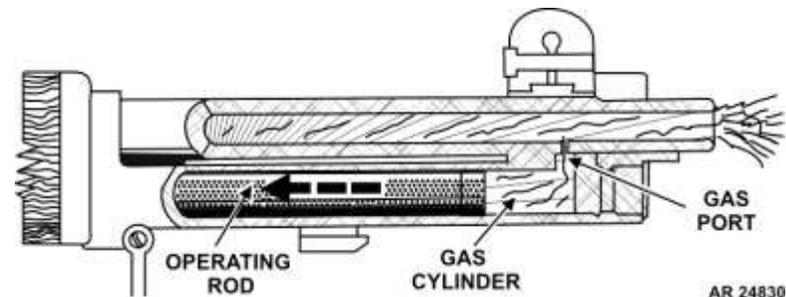

Figure 59 -Action of gas
- 5) **Unlocking:** Unlocking occurs after the round is fired. Once the round is initiated, a small portion of the gas expands through the gas port into the gas cylinder, forcing the operating rod to the rear (fig 59). The camming surface inside the recess in the hump of the operating rod, in combination with the guideway in the side of the receiver, forces the operating lug of the bolt upward, disengaging the locking lugs from their recesses in the receiver. The bolt is thus unlocked and ready to be moved to the rear.